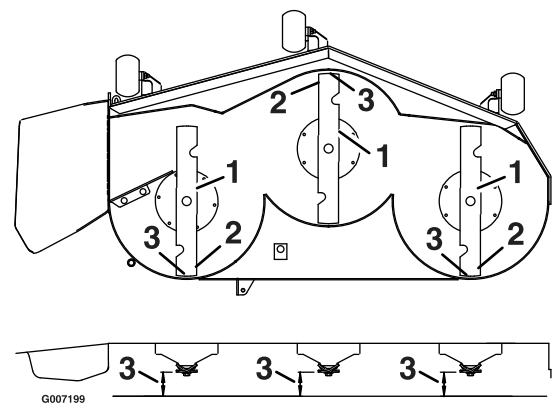

Figure 76
8. Check the front-to-rear blade level (Figure 76). Ensure the front blade tip is lower than the rear blade tip as shown in the block height and rake table. If adjustment is needed, continue with this procedure.